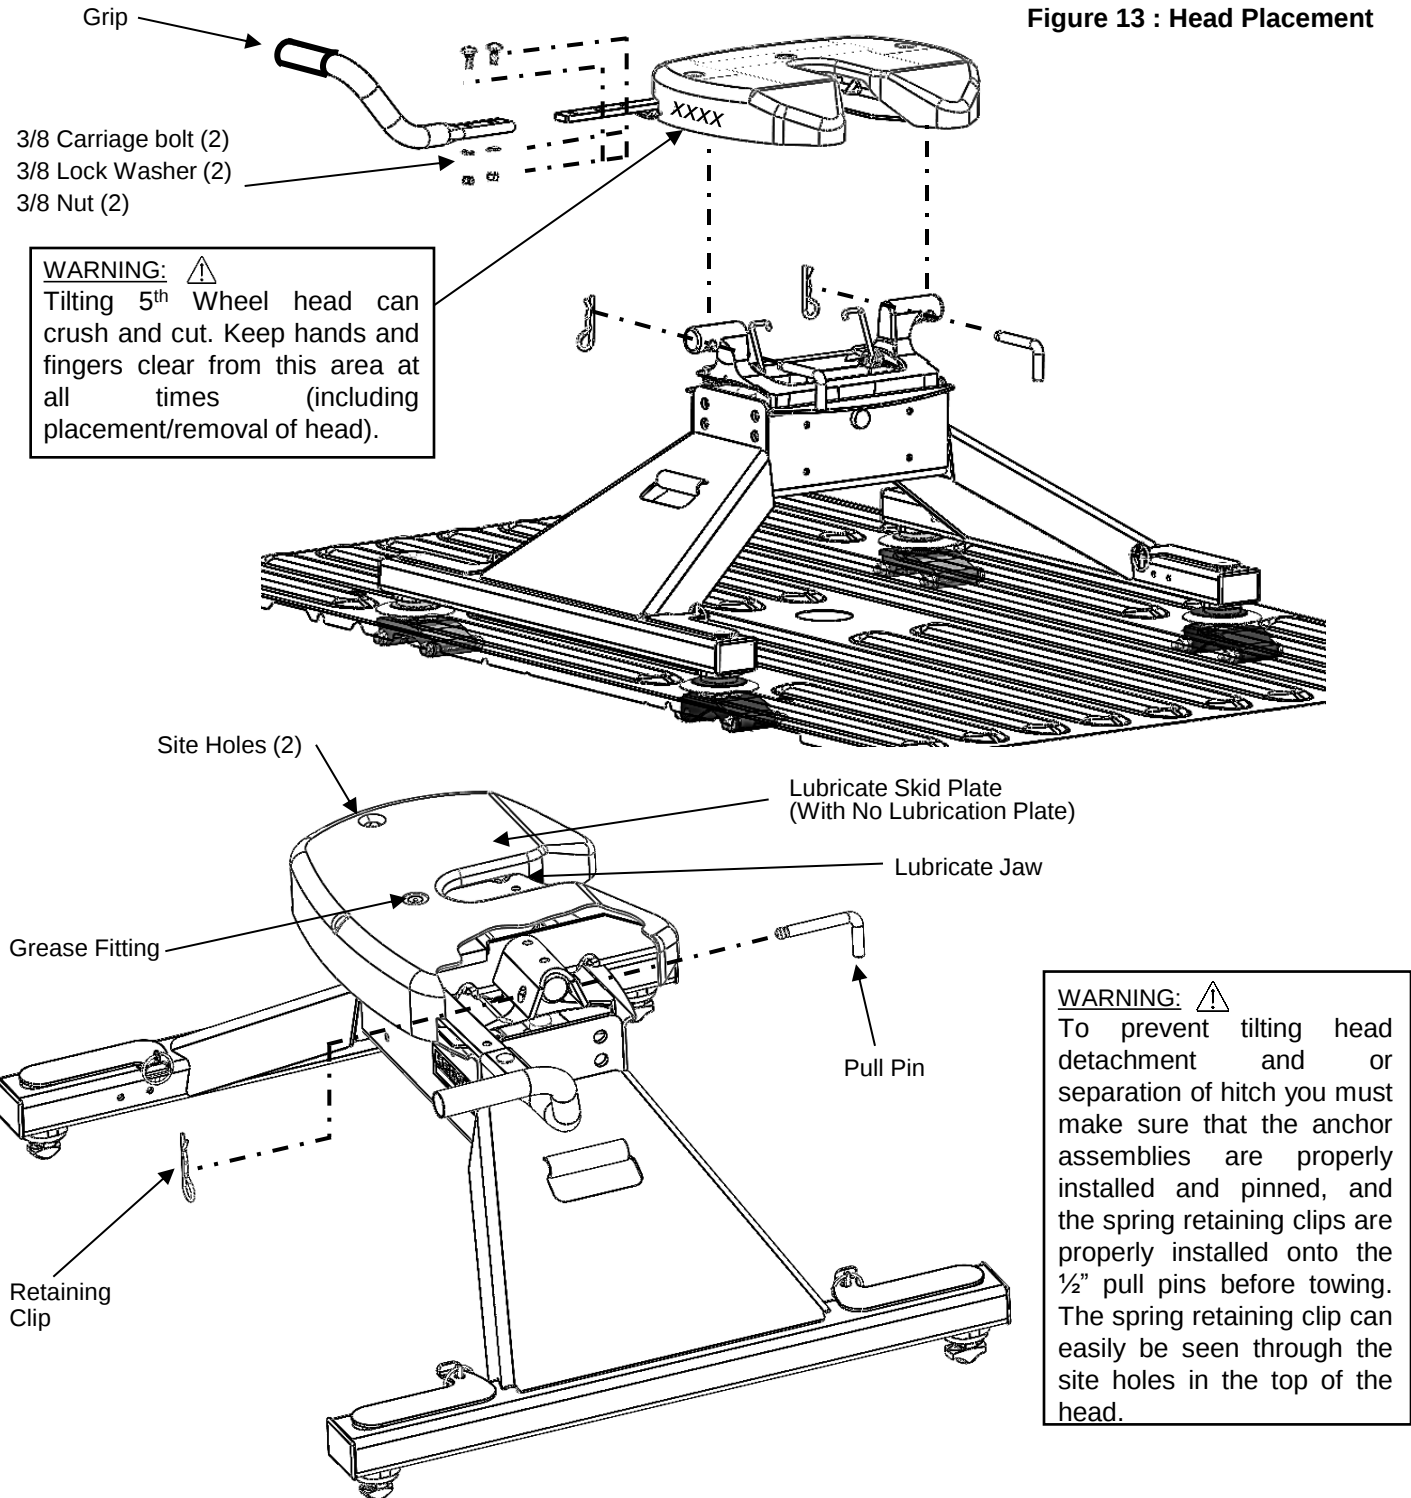

Figure 14 : Pin and Clip (Skid Plate cut away view)
12. Lubricate jaw and skid plate (If no lubrication plate is being used) with automotive type chassis grease (see Figure 14). The jaw pin comes greased from the factory. To insure smooth jaw operation, grease should be added every 6 months to grease fitting on top of head (see Figure 14). Refer to the Lubrication section in this manual.
6. Insert pull pin and clip on each side of the head to attach to the hitch center section (Figure 14).
1. Remove pull pin and clip from each side of the head (Figure 14).